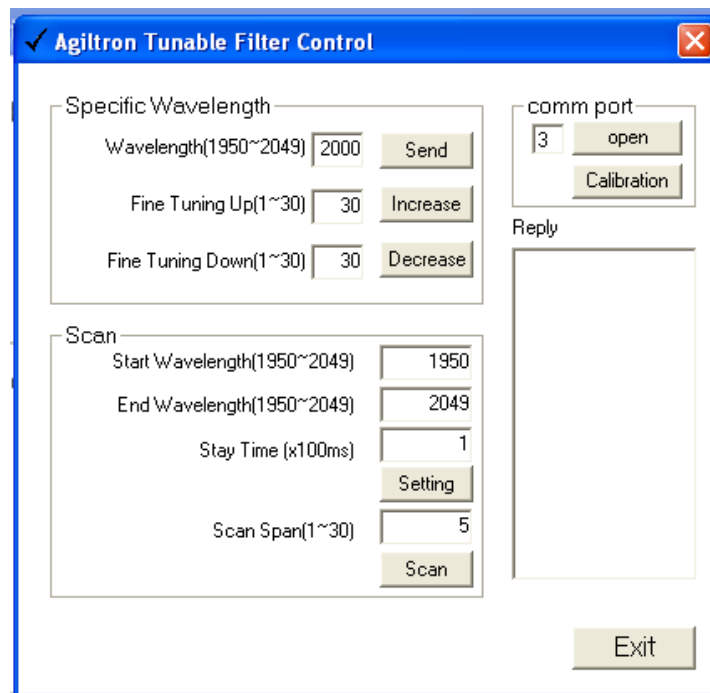

Fig.2 User Interface
- (1) Connect the Tunable Filter with the PC by the USB cable.
- (2) Power the Tunable Filter with the "5V DC power supply adapter" in the package. It takes about 30 seconds for initialization.
(3) Run the file "Motorcon.exe". The user interface "Agiltron Tunable Filter Control" shows on the monitor if the PC communicates with the Tunable Filter successfully. See Fig. 2.